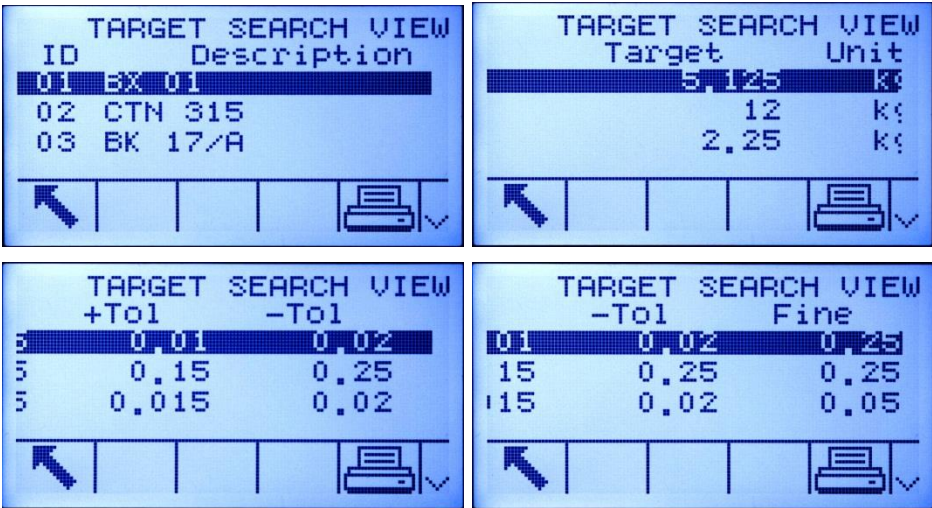

Figure C-7: Target Search View Results
3. Press the SEARCH softkey . The Target Table Search View screen displays with the search results sorted by ID. The file will have the lowest record ID at the top of the file and focus will be on that record. Only the first two fields [ID and Description (if enabled)] will be shown on the display. The remainder of the fields in each record can be viewed by pressing the RIGHT navigation key to move the view to the right. Pressing the LEFT navigation key will return the view toward the left. Figure C-7 includes a series of screens to show the contents of further columns available in the view.